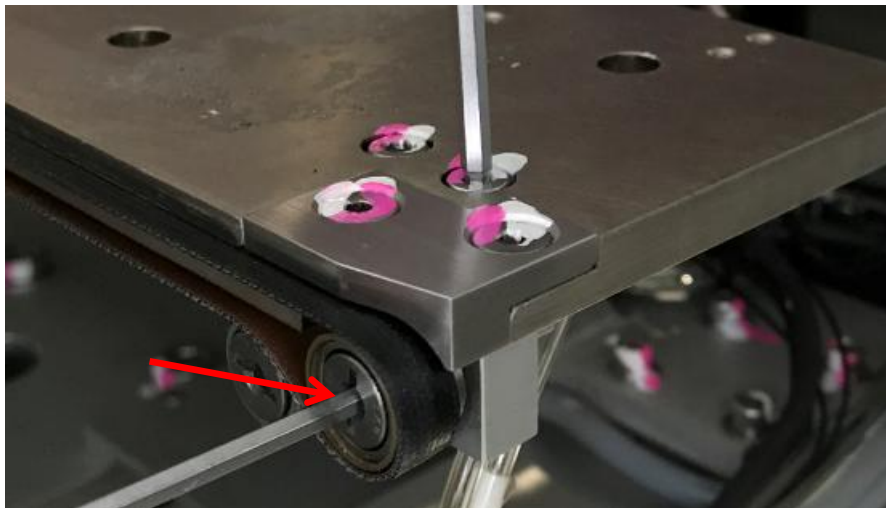

Figure 18 End Pulley Assembly
- e) Insert Allen Key to End Pulley as below Figure 18